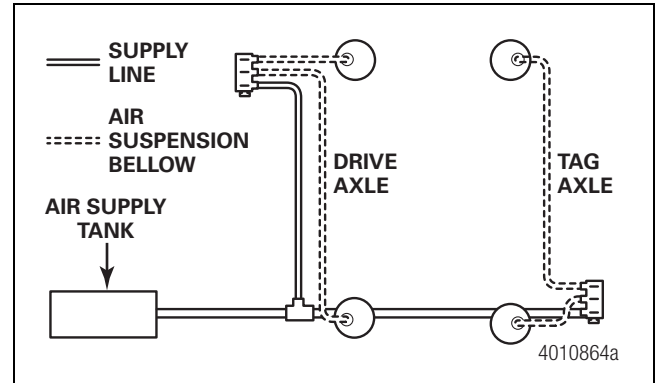

Figure 12
6. Verify the air lines for the bellows are connected to the corresponding valve, Tag or Drive. The bellows on the Tag must be connected to the valve designated as the Tag axle, curbside to port 22 and street side to port 23. Figure 12.